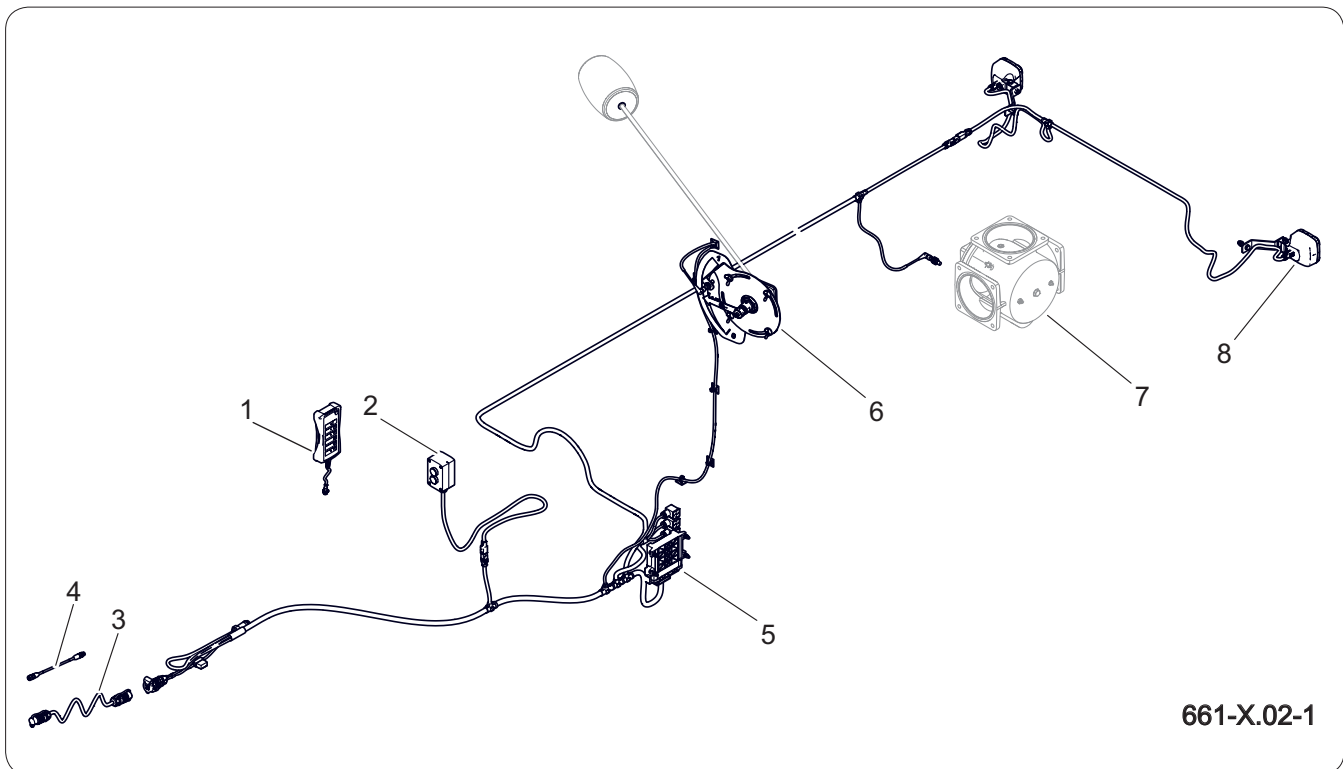

Figure 5.1 Arrangement of elements of the electrical control system
| Aggregation | <p>Connect the three-pin power connector to the tractor's 12V socket.</p> <p>Activate the appropriate section on the tractor's external hydraulic manifold, supplying the machine's hydraulic system.</p> <p>Press the ON/OFF button - (1) figure 5.1)</p> |